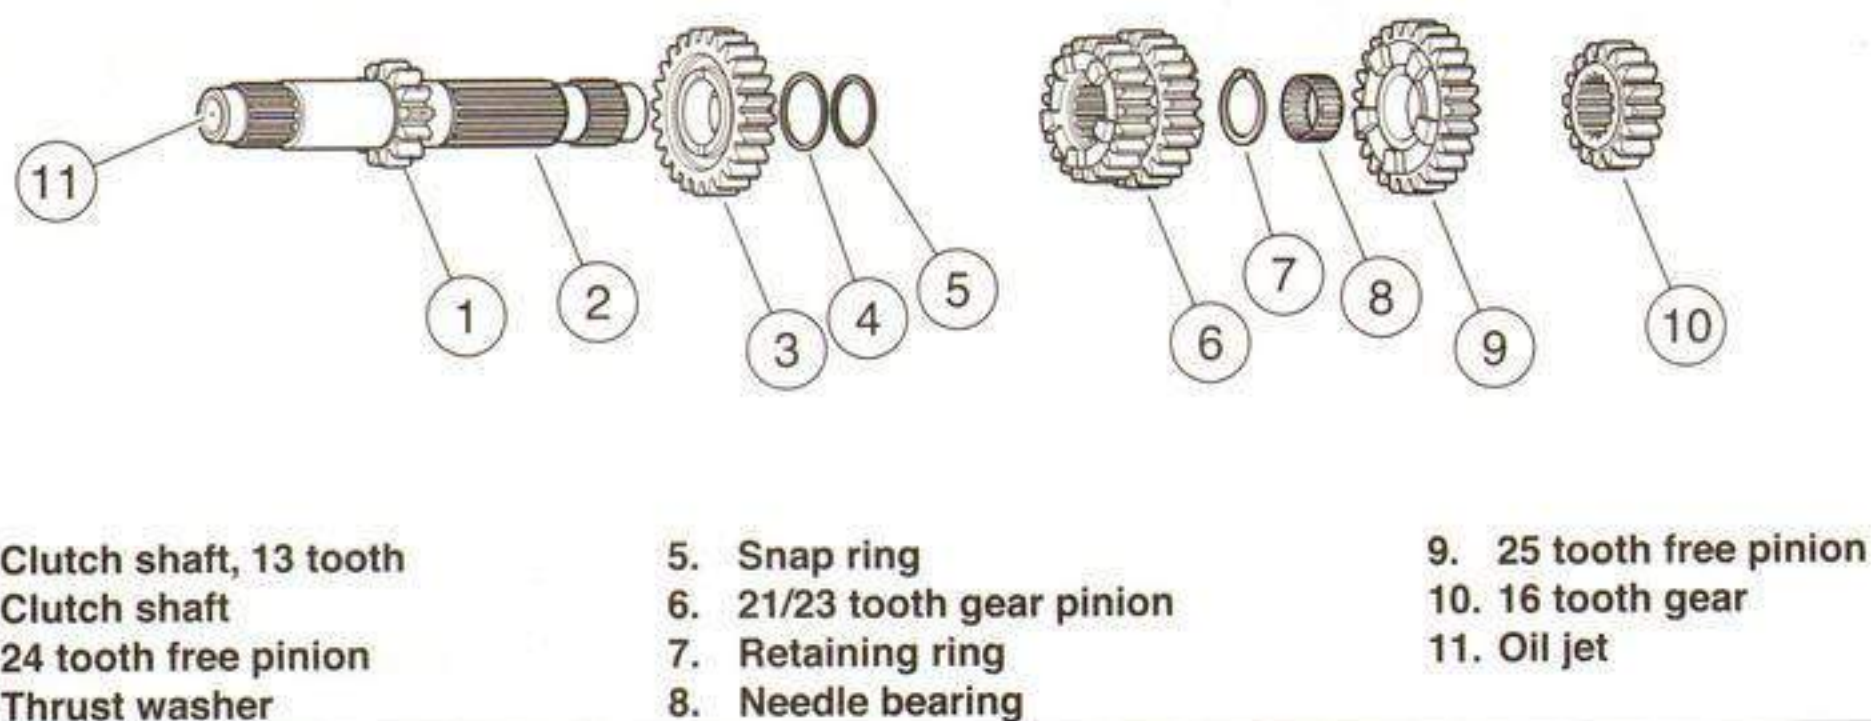
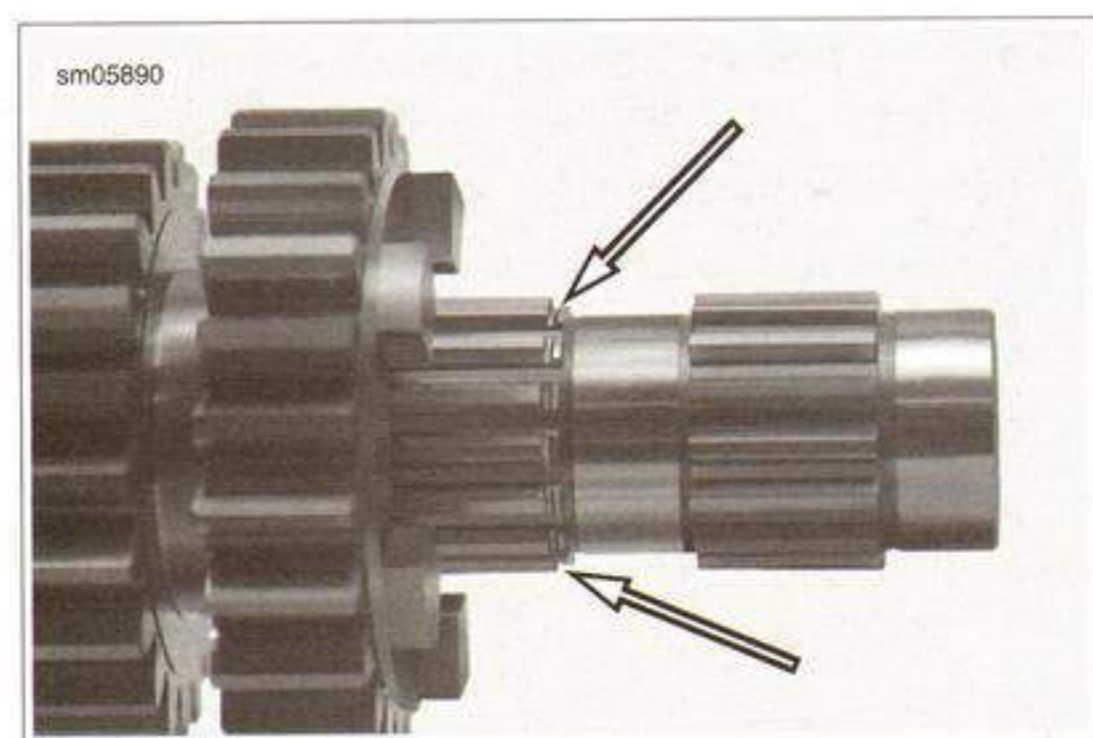

Figure 6-76. Transmission Clutch Shaft
Figure 6-77. Clutch Shaft Retaining Ring Groove (21/23T Gear Pinion)
1. See Figure 6-76. Remove the 16 tooth gear (10) from the end of the clutch shaft (2).
2. Remove the 25 tooth free pinion (9) along with needle bearing (8) from the clutch shaft.
3. Using TRANSMISSION SHAFT RETAINING RING PLIERS (Part No. J-5586A), expand and remove the retaining ring (7). Discard the retaining ring.
4. Remove the 21/23 tooth gear pinion (6).
5. Expand and remove the snap ring (5). Discard the snap ring.
6. Remove the thrust washer (4) and 24 tooth free pinion (3) from the clutch shaft.
7. As necessary, clean the oil jet (11).
1. See Figure 6-76. Install the 24 tooth free pinion (3) onto clutch shaft (2).
2. Install the thrust washer (4).
3. Expand and install a **new** snap ring (5).
4. Install the 21/23 gear pinion (6).
5. See Figure 6-77. Expand and install a **new** retaining ring.
6. See Figure 6-76. Install a **new** needle bearing (8) in 6th gear position on clutch shaft.
7. Install the 25 tooth free pinion (9).
8. Install the 2nd gear pinion (10).